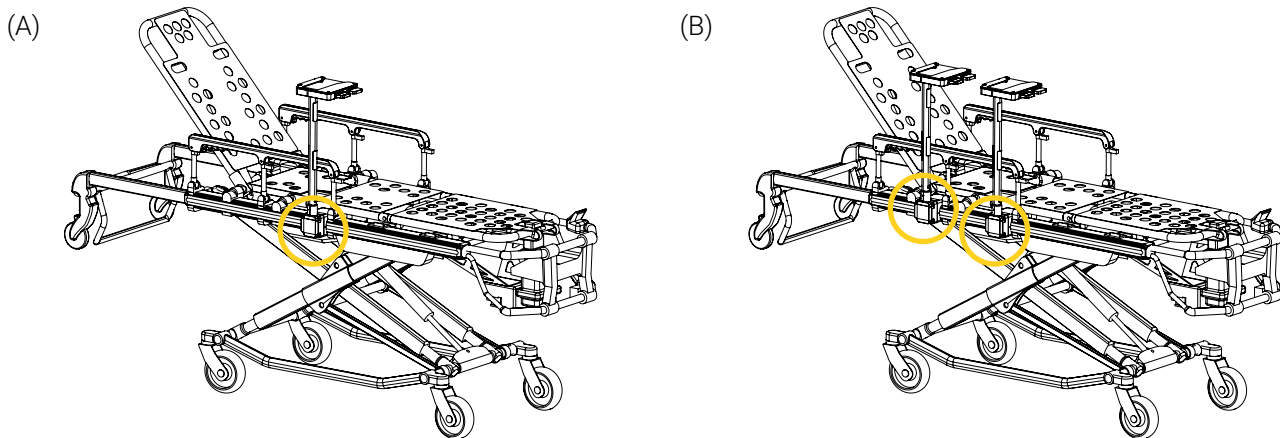

Figure 21: Mounting solution(s) installed on the stretcher frame
8. Repeat steps 3 to 7 to install a second PPXT FQS Clamp Block and AP Socket on the stretcher frame (Figure 21) if a second XTPA Auxiliary Pole is needed.